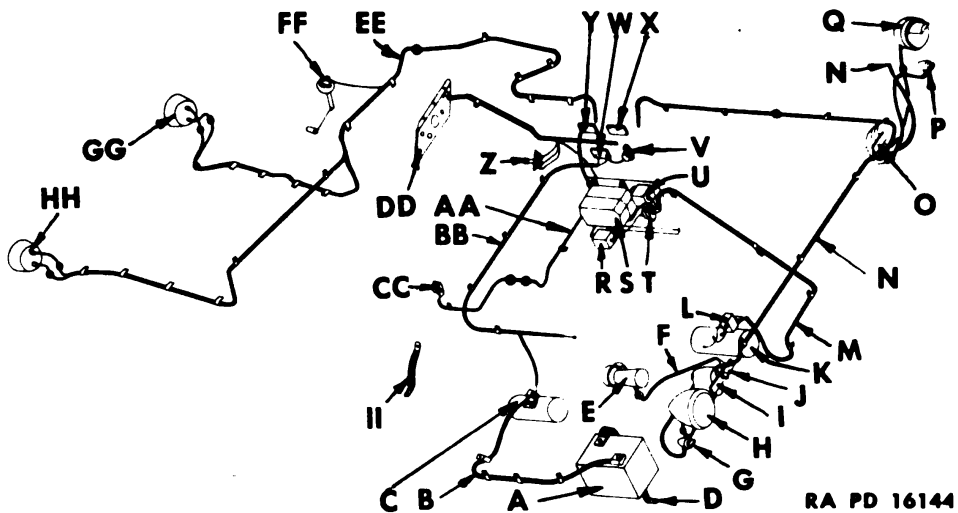

Figure 98—Wiring Harness Diagram
c. Several wiring harnesses are used on vehicles, as illustrated in Fig. 98. These harnesses contain wires to various units and junction blocks. Each harness may be removed as an assembly from the vehicle. The assemblies are well insulated with heavy loom, and are held in place by clips to prevent chafing. Rubber grommets are used where harnesses extend through bulkheads or sheet metal. Location of various harnesses are itemized in following paragraphs.